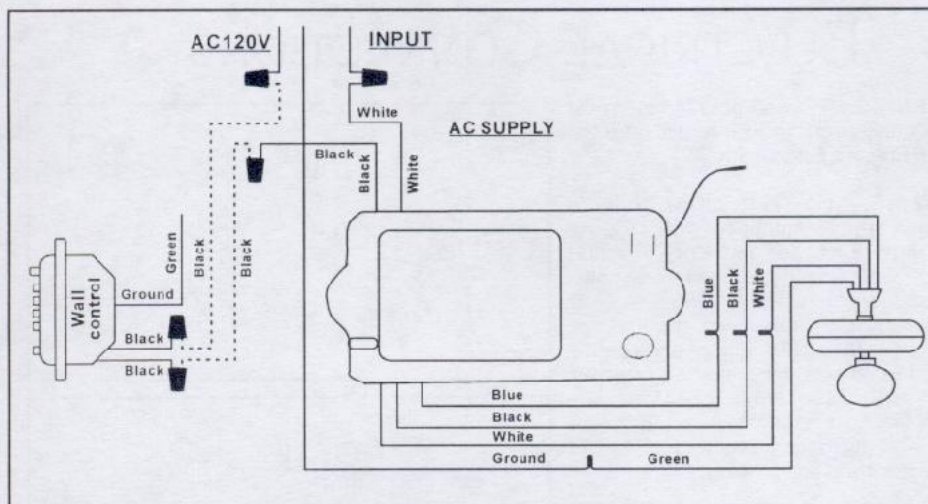

FIG 14
Step 2. Make the electrical connections as shown in (Fig. 14). If your outlet box has a ground wire (green or bare copper) connect the wall transmitter's ground wire to it; otherwise connect the wall transmitter's ground wire directly to one of the screws from the outlet box.